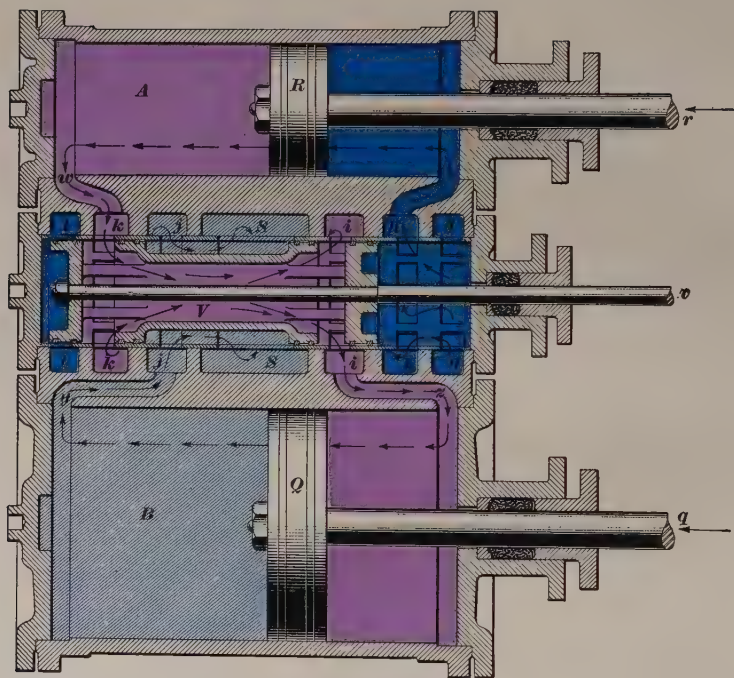
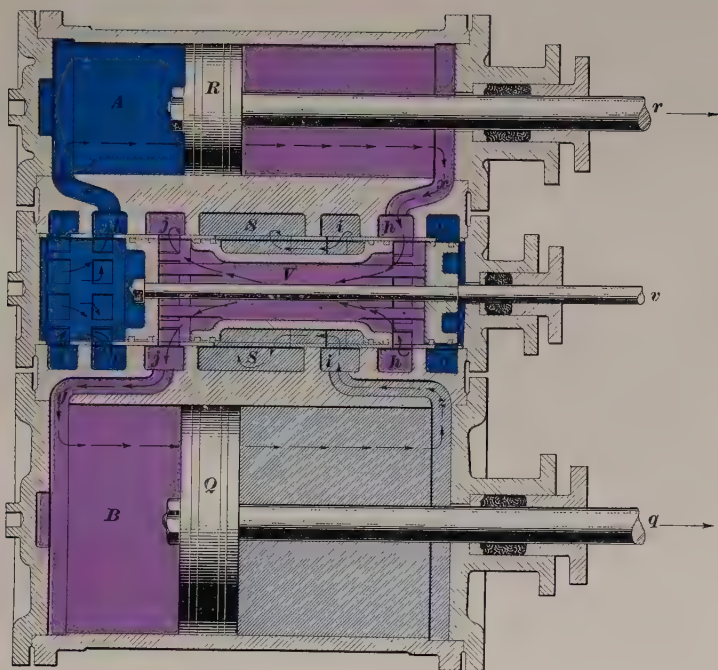
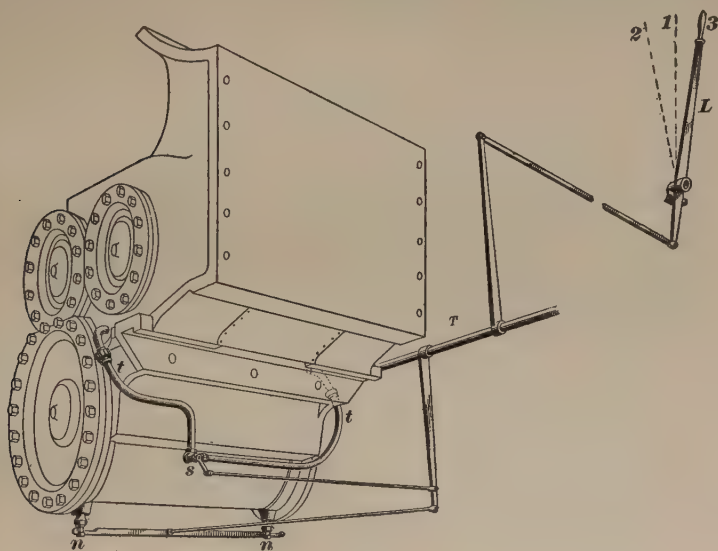

FIG. 10
FIG. 11
FIG. 12
of chambers cast in the saddle that extend completely around the valve bushing. The steam pipe E connects with a steamway in the cylinder saddle that divides into two branches; the end of one branch forms chamber g , while the end of the other forms chamber l , both of which surround the valve bushing. Steam pipe D supplies steam to the right-hand cylinders. Chamber k is the steam-chest end of the steam passage w that leads to the front end of the high-pressure cylinder A , while chamber h is the end of the steam passage x that leads to the back end of the cylinder. The chambers j , i are the steam-chest ends of the steam passages y , z that lead to the front and back ends, respectively, of the low-pressure cylinder B . Chamber S in the cylinder saddle forms the steam-chest end of the exhaust steamway that leads to, and connects with, the exhaust pipes P . It will thus be seen that steam from the boiler enters the steam chest through the end cavities g , l , so that, when the throttle is open, the two ends of the steam chest are filled with steam. Also, it will be seen that the steam must pass from the steam chest through chamber k or chamber h in order to get into the front or back end of the high-pressure cylinder, respectively. Also, for steam to enter the front or back end of the low-pressure cylinder, it must pass through chamber j or chamber i , respectively. Steam, in exhausting to the atmosphere from the low-pressure cylinder, must pass through the cavity S . Two relief valves m , m are screwed into holes that lead to the passages j , i , and another valve is screwed into a hole n leading to the steamway in the cylinder saddle. The arrangement of the cylinders, steamways, and cavities in relation to the steam valve will be more clearly seen by referring to Fig. 10.
25. Forward Stroke.—The views of the steam chest and cylinders in Figs. 10 and 11 are not true sectional views, but are conventional views made up for the purpose of showing the relation of the high- and low-pressure cylinders to
Suppose the engine to have been working, so that both cylinders are working steam; then the operation for the forward stroke, Fig. 10, will be as follows: With the valve in the position shown, steam from the steam chest enters the back end of the high-pressure cylinder A through chamber h and the steamway x , as indicated by the arrows, forcing the piston toward the front end of the cylinder. The steam in the front end of the high-pressure cylinder is exhausting through the steamway w , chamber k , cavity of valve V , chamber i , and steamway z , into the back end of the low-pressure cylinder B , as indicated by the arrows, thus forcing the low-pressure piston toward the front end of its cylinder also. The exhaust steam in the front end of the low-pressure cylinder is exhausting to the atmosphere through the passage y , chamber j , cavity of valve V , and the exhaust port S , as indicated.
26. Backward Stroke.—In the backward stroke of the pistons, Fig. 11, the valve is admitting steam to the front end of the high-pressure cylinder, as shown, while the steam in the back end of the high-pressure cylinder is exhausting into the forward end of the low-pressure cylinder; hence, both pistons are being forced toward the back end of their cylinders. The exhaust steam in the back end of the low-pressure cylinder is passing through the steamway z , chamber i , and cavity of valve, into the exhaust passage S . By comparing Figs. 10 and 11, it will be seen that the high-pressure cylinder receives the steam directly from the boiler through the steam chest, while the low-pressure cylinder receives its supply of steam directly from the exhaust side of the high-pressure cylinder. In other words, the high-pressure cylinder receives steam from the boiler for a certain part of the stroke, allows it to expand practically for the remainder of the stroke, and then discharges it into
The arrangement of the starting-valve gear is shown in Fig. 12. The starting valve *s* is connected by the pipe *t* to the steamways *h, k*, Fig. 11, that lead to the opposite ends of the high-pressure cylinder. This valve is merely a by-pass valve, and is operated by the same lever *L* in the cab that operates the cylinder cocks *n*. The later arrangement of the starting valve, Fig. 14 (*b*), places it above the steam chest, in which case it has a separate lever in the cab for operating it, and is not connected with the cylinder cocks. This starting valve is simply a plain plug cock in a straight pipe, and does not have the cylinder cocks combined with it as in the old starting valve.
40. Other Breakdowns.—Broken packing rings, in either the steam valve or cylinder piston, are very difficult to detect, and generally can only be noticed in their effect on the engine; that is, when the rings are faulty, the engine steams poorly and will not make time on the road. The low-pressure piston packing rings require renewal more frequently than those of the high-pressure piston. Sometimes the cylinder-cock shaft *T*, Fig. 12, becomes strained, so that, when the cylinder-cock lever is moved, it will open the starting valve on one side of the engine, but will not open the one on the other side. This causes the exhaust to sound alternately light and heavy, and the trouble is very apt to be attributed to the valve gear; hence, before altering the valve gear, examine the starting valves, to see whether they open and close simultaneously, and examine, also, the steam valve and low-pressure piston for broken rings.
lever connections are sometimes bent by striking obstructions along the road; this alters their length so that, with the lever in the cab in its proper position, the altered length of the connections will throw the starting valve out of its proper position. If the connections for one side are so bent that the starting valve is opened when the cylinder-cock lever is in compound position (position 1, Fig. 12), it will allow live steam to go to the low-pressure cylinder on that side, and a heavy exhaust will occur from that side. If by placing the cylinder-cock lever in live-steam position (position 3, Fig. 12) the exhausts are made equal, the trouble will probably be found in the connections.
42. If the starting valve is all right, but it is thought that the engine is not doing its work as well as usual, look for the trouble on the side from which the light exhaust is coming, which, in this case, is the right side. To determine this, place the engine on the quarter on the right side with the reverse lever in the corner and the starting valve in position 3, Fig. 12 (live-steam position); block the drivers or set the brakes, open the throttle, and then open the cylinder cock, or remove the indicator plug from the end of the low-pressure cylinder opposite that containing steam. If steam escapes, it indicates that the low-pressure cylinder packing is leaking on that side. This test is practically the same as the test for a cylinder packing blow in a simple engine.
place the reverse lever in the corner, and open the throttle. An indication of pressures in the ends of the high-pressure cylinder can be had by slacking off on the union nuts at each end of the live steam pipe *t*, Fig. 12. If steam blows from each, it indicates that either the valve or the high-pressure piston packing is blowing. If, on bringing the reverse lever to the center notch, the blow ceases, the trouble will be found in the high-pressure piston packing; but if the blow continues, it will be the valve packing, though the piston packing may be blowing also. To determine if it is the piston packing, the valve packing must be made tight; if the engine still blows, the piston packing is leaking. If the blow is past either pair of valve rings 1 and 2 or 3 and 4, a heavy exhaust will be had from each end of the cylinder, as steam leaking into either end of the inner cavity of the valve will find its way into whatever port the other end of the cavity may be in connection with. When indicator plugs are placed in the cylinders, they may be removed to determine whether leakage occurs in the test. Most engines that have the starting valve independent of the cylinder cocks have cylinder cocks leading from the high-pressure cylinders, and these, when opened, will be the most convenient indication of the pressure in the opposite ends of the high-pressure cylinder. Sometimes the steam-chest bushing does not make a tight fit with the walls of the chest and allows steam to leak from one part to another, giving a blow that can only be located after all other possible places for a blow have been examined. By tapping with a hammer on the inside of the bushing, the defective joint can sometimes be determined by the difference in sound.